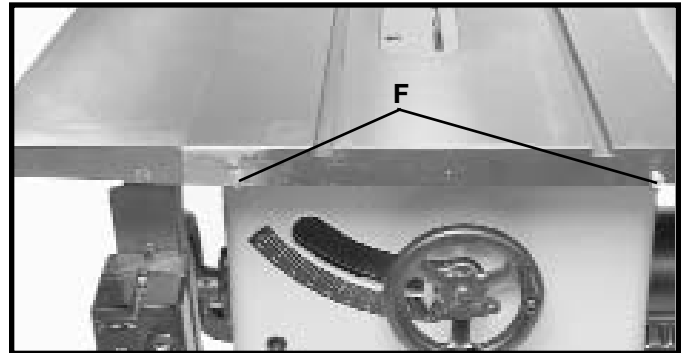

Fig. 20
3. Insert two 3/8-24x1" hex head bolts into the two holes (F) Fig. 20, in the front of saw table and place flat washer and nut onto bolt from underneath the saw table. Screw bolts into nuts two full turns, leaving bolt head extended approximately 1/2" from the table. **Note: Make sure to use only the two holes shown at (F).**
3. Drill two 7/16" holes in the front of the table 1.18" from the top of the table and approximately 2" in from the right and left side of the table. Insert two 3/8-24x1" hex head bolts into the two holes (F) Fig. 20, in the front of saw table and place flat washer and nut onto bolt from underneath the saw table. Screw bolts into nuts two full turns, leaving bolt head extended approximately 1/2" from the table.